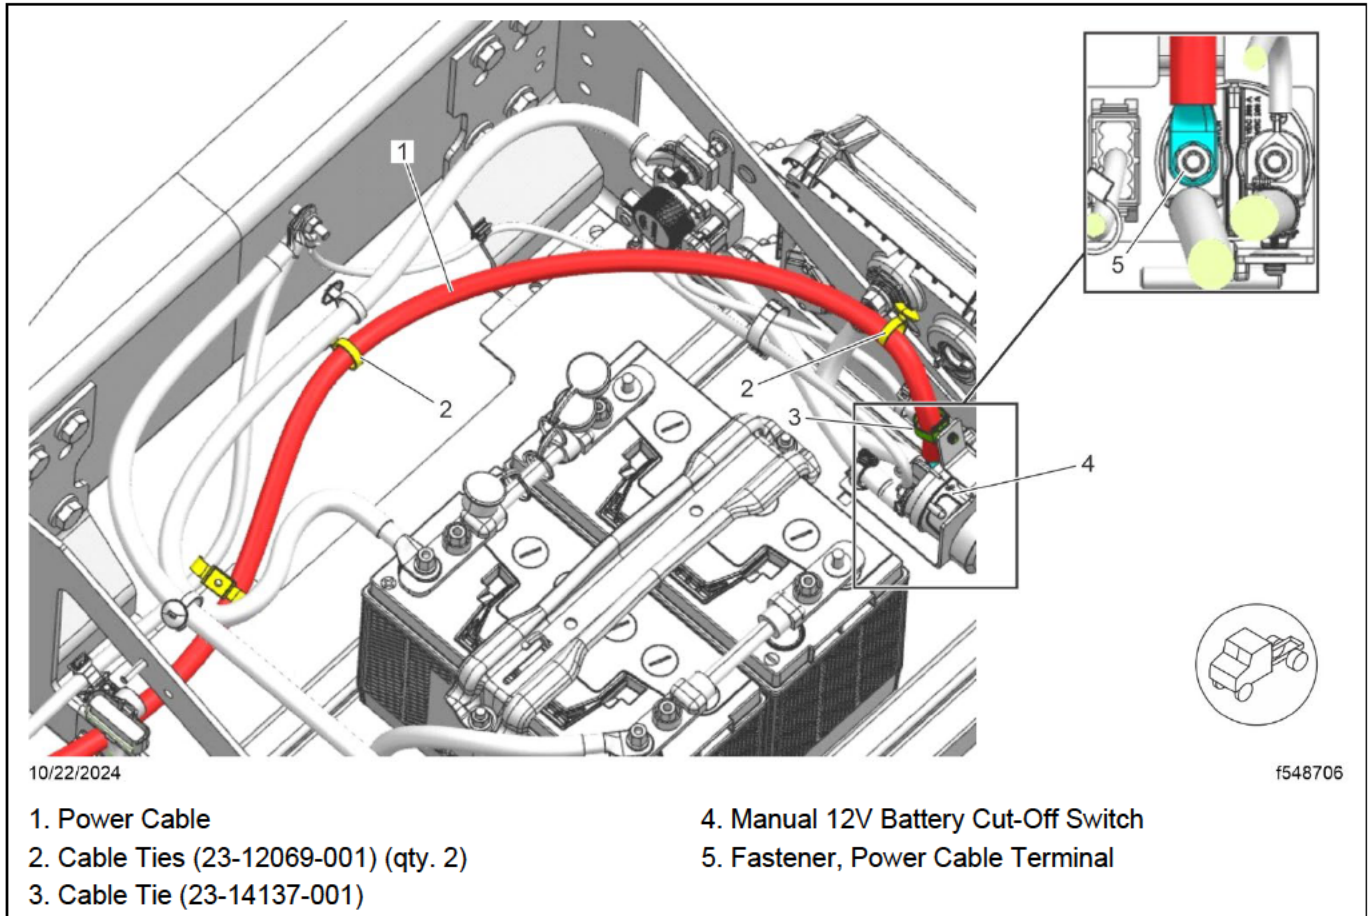

Fig. 8, Connecting the VFD Power Cable to the Battery Cut-Off Switch
17. Connect the power cable from the VFD (A06-47195-109) to the battery cut-off switch, as shown in **Fig. 8**. Tighten the fastener 80 lbf-in (900 N·cm).
18. Use cable tie (23-14137-001), item 3 in **Fig. 8**, to clip the cable.
19. Use cable ties (23-12069-001), item 2 in **Fig. 8**, to secure the power cable.